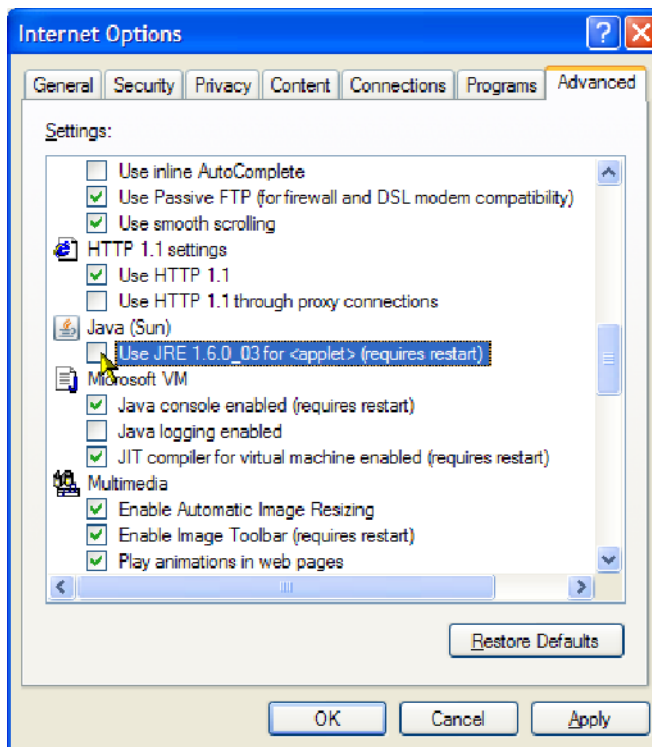

Figure 5: Internet Options dialog box
11. Locate the **Java (Sun)** node, and then clear the **Use JRE** check box (see Figure 5).